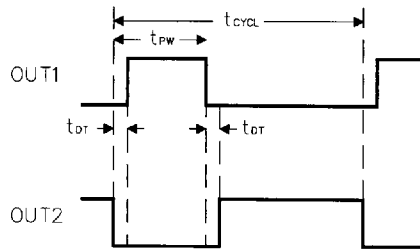
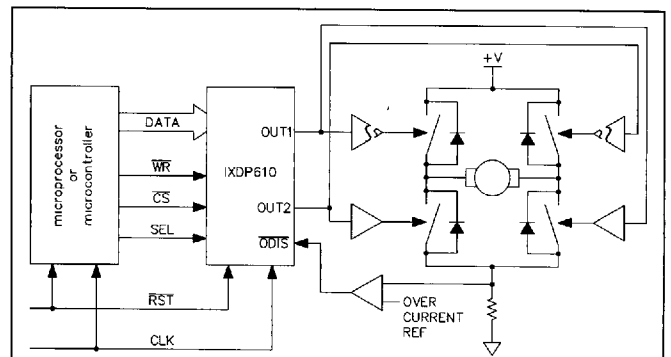

Fig. 2 PWM Cycle Time and Dead-Time Definition
Fig. 3 IXDP610 to DC Servo Motor Full Bridge Block Diagram
Because the IXDP610 is a digital IC, and is programmable, it is possible to tailor the dead-time period (defined as t_{DT} in Fig. 2). IXDP610's programmable dead-time feature is difficult to duplicate in the equivalent analog system. The control of a switching bridge usually involves a process of alternating the "on-time" of two power switches connected in series between a high-voltage and a low-voltage. For example, the H-bridge of Fig. 3 can be operated by turning the upper left and lower right transistors on and leaving the two remaining transistors off, during the first half of the PWM cycle. In the second half of the cycle, the upper right and lower left transistors are on and the remaining two are off. During the
Dead-time counter bits - these three bits determine the dead-time period, as defined by Fig. 2. Dead-time is that period of time when both OUT1 and OUT2 are low. Any binary number from 000 through 111 is valid. Thus, eight different dead-time periods can be programmed. DT0 is the least significant bit and DT2 is the most significant bit. A 000 binary means no dead-time and a 111 means maximum dead-time. Each dead-time count corresponds to two CLOCK periods. For instance, if a binary three (3) is programmed into the dead-time bits, the dead-time will be six external CLOCK cycles long.
In a typical PWM cycle (refer to Fig. 2) two dead-time periods will occur. One follows the turnoff of OUT2. The dead-time counter is triggered by an output turning off. During a dead-time period, both outputs are guaranteed to be off (no dead-time periods occur during 0 % and 100 % duty-cycle states). The dead-time period overlaps the ontime of an output, therefore, it shortens the on-
time without affecting the base PWM cycle time. A dead-time period is only inserted if an output changes from high to low (on to off). Thus, if a PWM duty cycle is chosen such that an output would be on for a period of time equal to or less than one dead-time period, the switch associated with that output will not be turned on during the PWM cycle. In this special case, one will observe only dead-time period per PWM cycle time, rather than the two dead-time periods shown in Fig. 2.
The Pulse Width number that is written to the Pulse Width latch represents the high time of OUT1 (the low time of OUT2). The Dead-time Counter decreases the on-time (output high) of an output by one dead-time period (t_{DT}). See Fig. 2 and the description of the dead-time bits in the Control latch to determine the duration of one dead-time period.
"PWM cycle time" is t_{CYCLE} in Fig. 2.